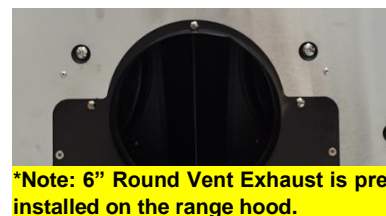

Figure 1
8. For Top 6" Round vent installation: The 6" Round vent is already installed. (Refer to Figure 1)